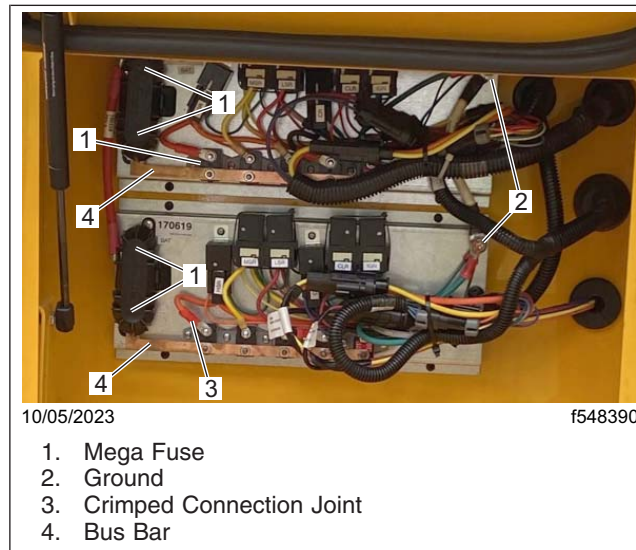

Fig. 3, BCC Module
15. Check if the nuts that attach the cables to the bus climate control (BCC) modules are properly tightened. Tighten the B (+) connectors between the cables and the mega fuses 95 lbf-in (1073 N-cm). See **Fig. 3**.